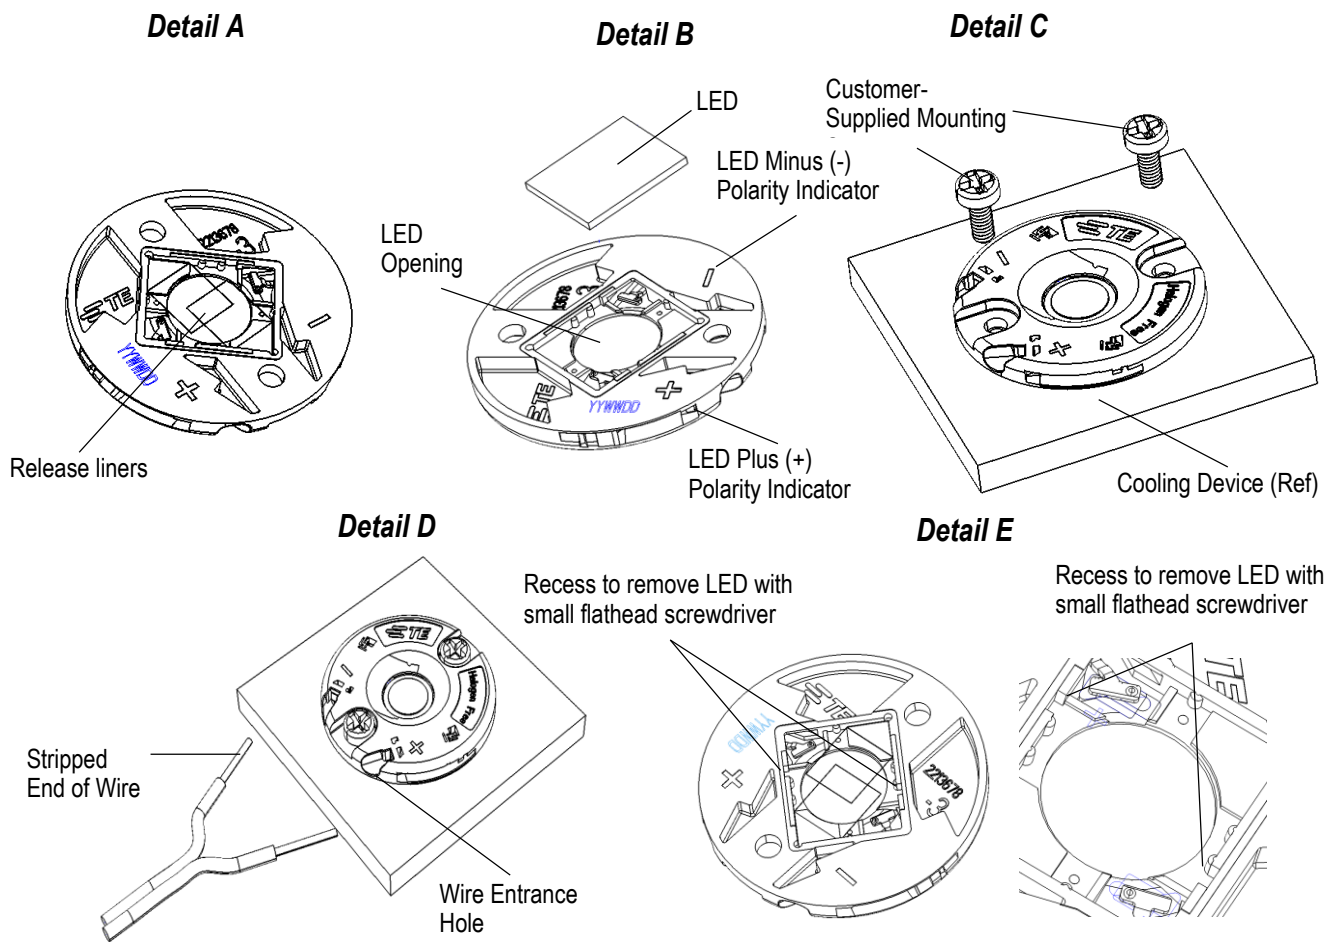

Figure 4
1. Take both release liners in the middle with a tweezer and pull the release liners with one move perpendicular to the release liners off the tape. See Figure 4, details A.
2. The LED polarity indicator must be observed when orienting the LED into the LED opening. Insert the LED and push the LED hard down in the corners with the tape, ensure you do not press the light emitting (yellow part) of the LED. See Figure 4, details B.
3. The LED holder (bottom side) must be placed on the cooling device so that the screws holes align over the holes in the cooling device. The LED holder must be secured to the cooling device using two customer-supplied M3 or No. 4-40 with minimum length of 8mm mounting screws. Each mounting screw should be tightened to a torque between 0.4Nm and 0.6Nm [3.45 and 5.31in.-lb]. See Figure 4, detail C.
4. Strip the end of each wire, ensure the wire end is acceptable (see figure 2, proper length and shape). Insert the wire straight (aligned with centerline of the hole) in the entrance hole according the polarity indicator until the wire bottoms. See Figure 4, Detail D.
Defective or damaged LED holders must not be used. Wires can be removed by turning and lightly pulling the wires, this may be done maximum of 3 times, however doing this might damage the wire clamping force and is not recommended. The maximum mating cycle for the terminated LED holder (inserting a LED) is 3. The LED can be removed using a small flathead screwdriver and using the recess in the bottom next to the LED to lift the LED out of the holder. See Figure 4, Detail E.